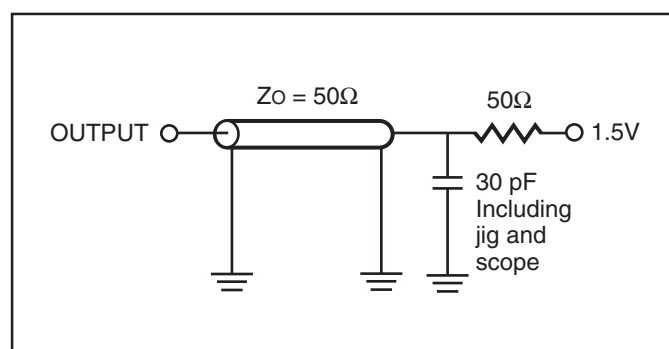

Figure 1.
- Test conditions assume signal transition times of 5 ns or less, timing reference levels of 0.9V/1.5V, input pulse levels of 0.4 to V_{DD}-0.2V/0.4V to V_{DD}-0.3V and output loadings specified in Figure 1.
1. Test conditions assume signal transition times of 5 ns or less, timing reference levels of 0.9V/1.5V, input pulse levels of 0.4 to V_{DD}-0.2V/0.4V to V_{DD}-0.3V and output loading specified in Figure 1.